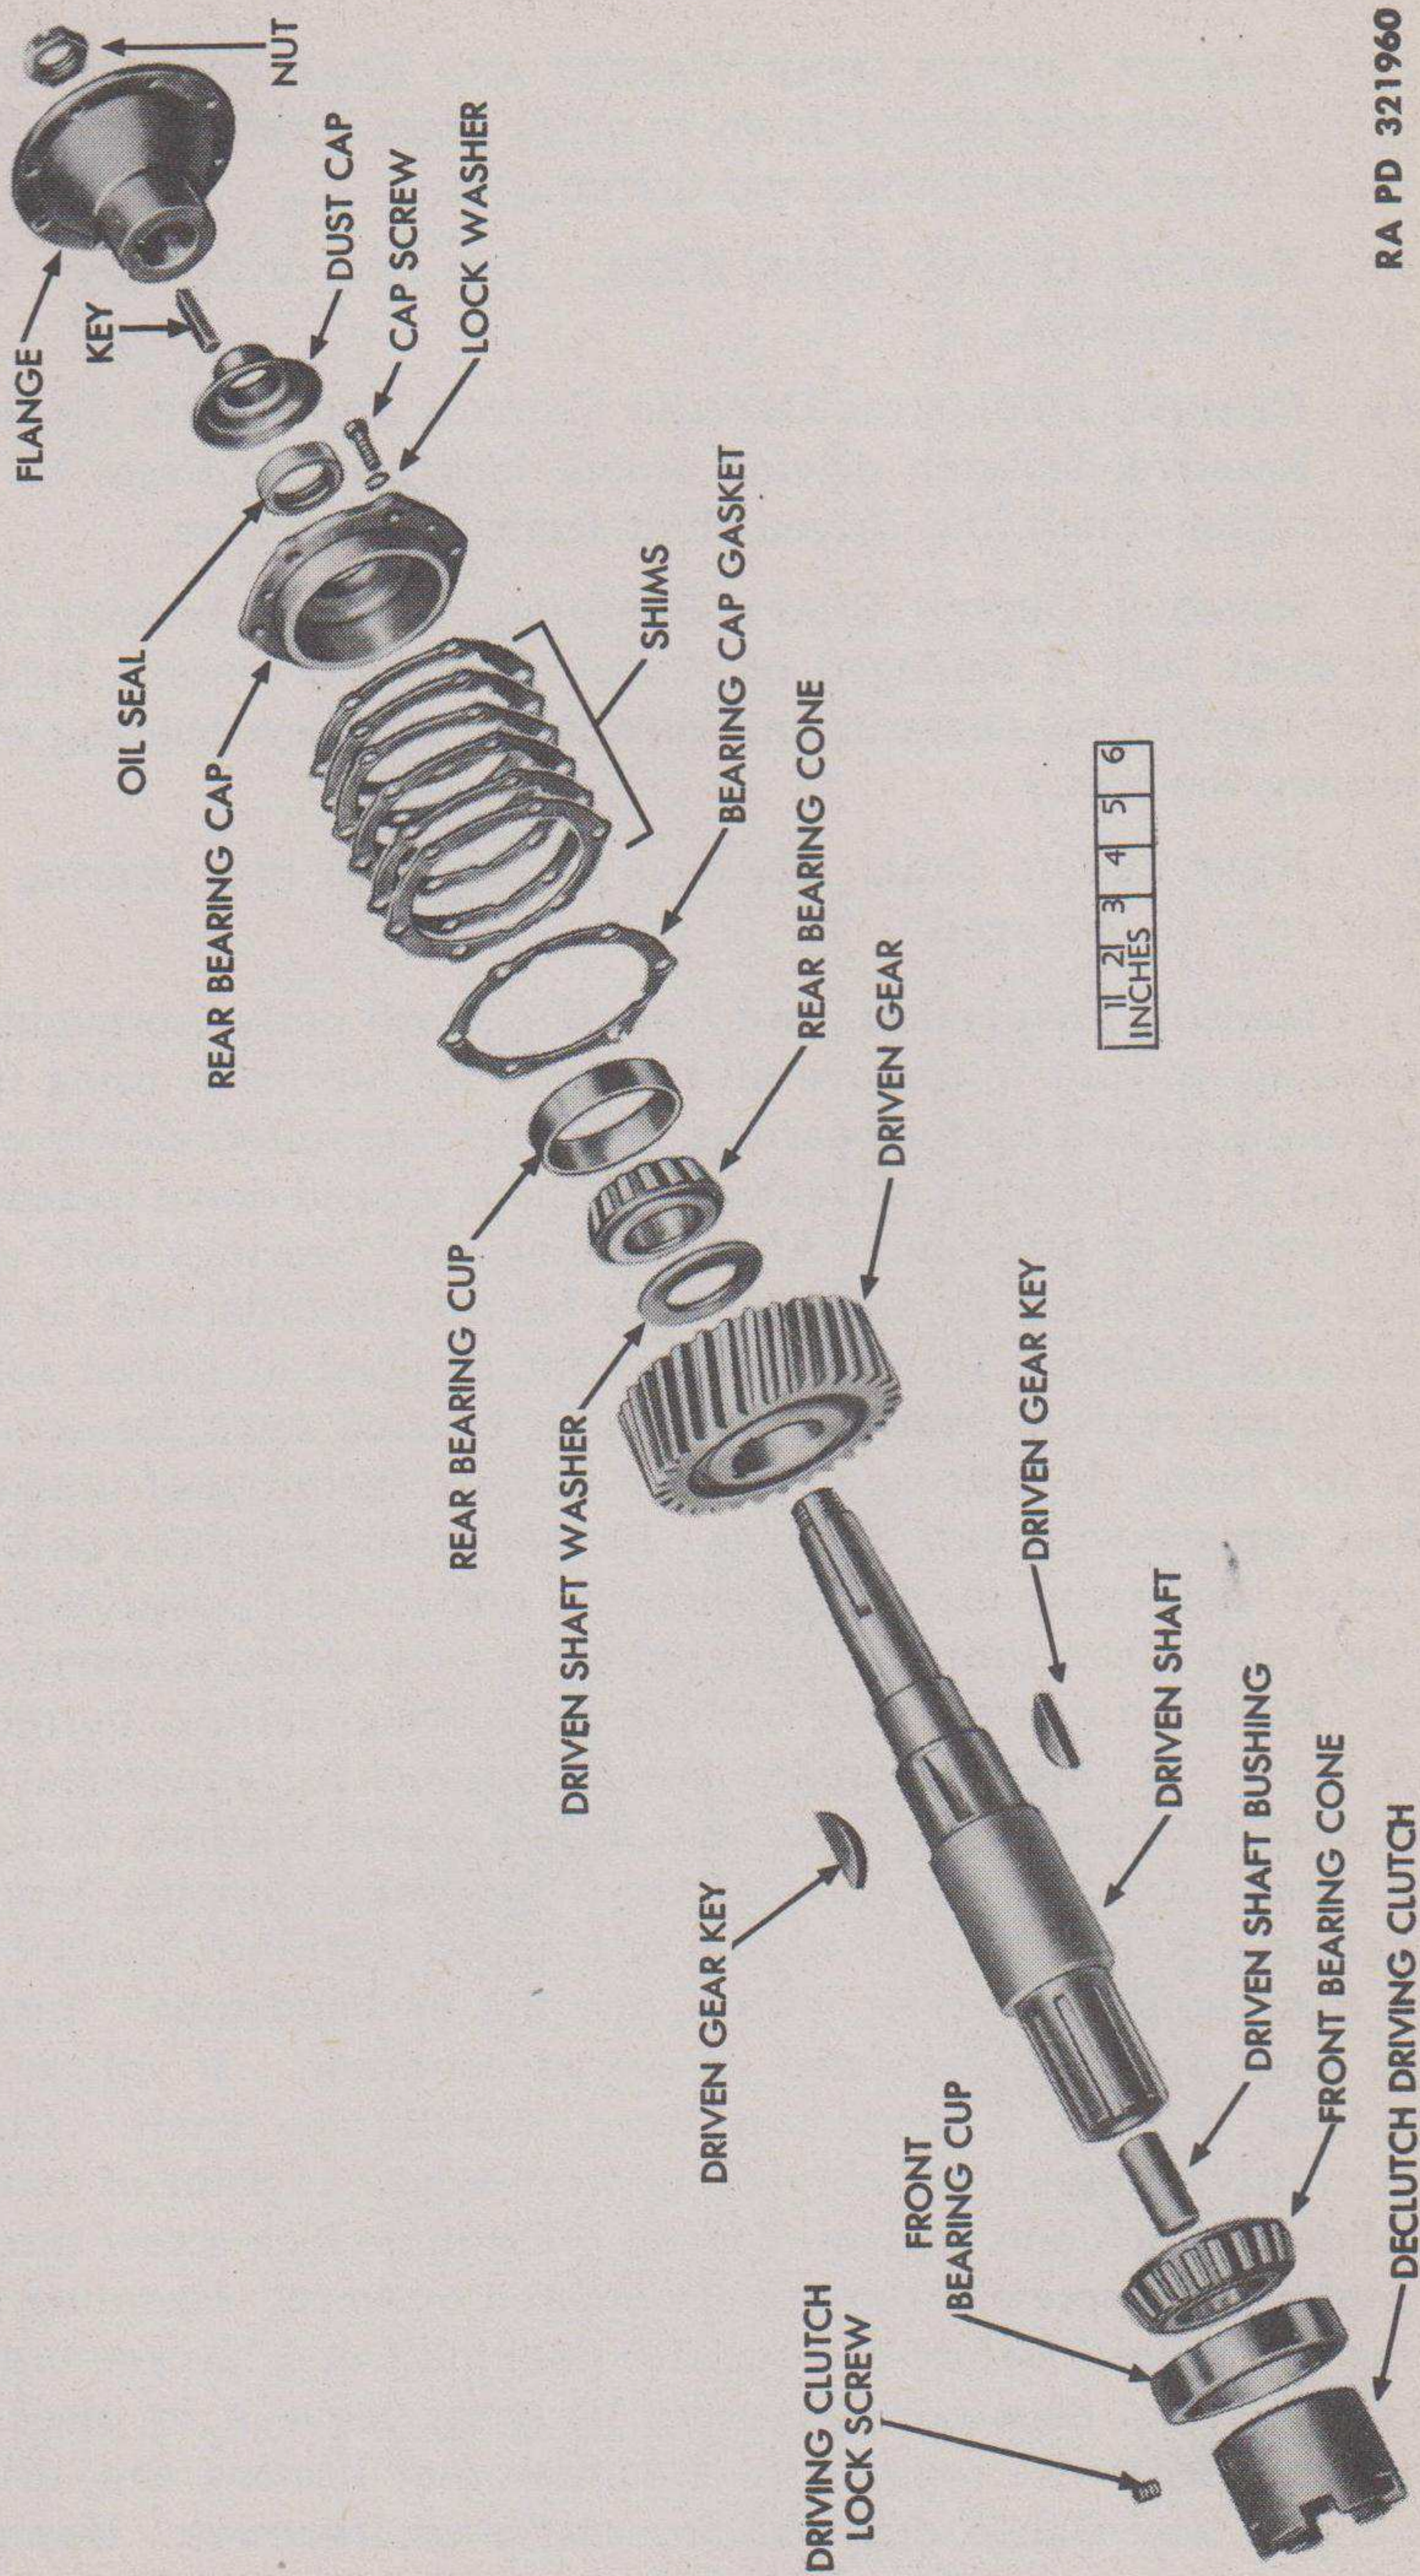

Figure 26 — Driven Shaft Disassembled
g. Remove Driven Shaft Rear Bearing Cap (fig. 26). Remove driven shaft key and driven shaft flange dust cap. Remove cap screws and lock washers attaching bearing cap to transfer case. Lift off bearing cap, shims, and gaskets.
a. Disassembly (fig. 26).
5- TO 6-TON PONTON TRACTOR TRUCK (AUTOCAR MODEL U8144T)****c. Assembly (fig. 26).**